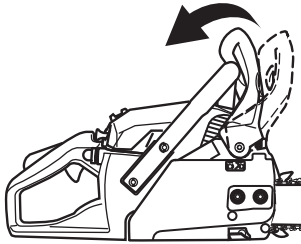
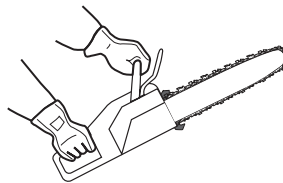

Fig. 24
Fig. 26
The chain brake (2) in the disengaged position, the product can be operated (Fig. 24).
- > Make sure the chain brake (2) is disengaged. Disengage the chain brake (2) by pulling it back towards the front handle (1) (Fig. 24).
- > Place the product on any suitable flat surface, make sure the saw chain (3) is not touching the surface or other objects.
- > Grasp the front handle (1) with your left hand. Your thumb and fingers should encircle the handle. Grasp the rear handle (11) with your right hand. Your thumb and fingers should encircle the handle (Fig. 26).
- > Make sure the safety chain brake (2) is engaged (see above). The engine will not start if the chain brake is in the engaged position.
- > Ensure the saw chain (3) does not come into contact with anything before starting the engine.
- > Set the ignition switch (27) to position "I" (Fig. 24).